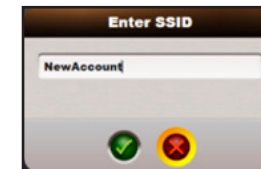

Figure 4-43 SSID Entry Screen
17.3.3.1 Press Change SSID button, then input the wireless networks SSID name (see Figure 4-43). As a general rule they do not contain spaces or special characters.